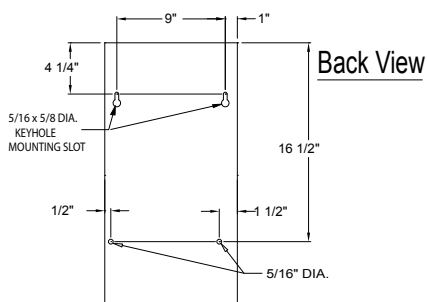

Figure 3
Four lag bolts, (2) 5/16" and (2) 1/4", are supplied with the 6000 unit. Install the top two lag bolts (5/16") according to the dimensions in Figure 3. Hang the unit on the wall, and then install the bottom two lag bolts (1/4") and secure all four bolts. Be sure the unit is level and mounted directly to the wall to wood studs at least 2" thick (or equivalent). Operating weights are as follows: